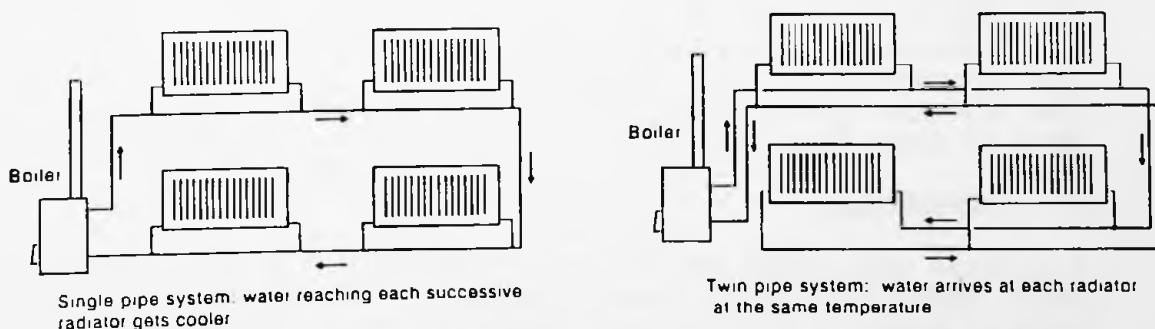

Fig 3.5 One and two pipe central heating systems
6. Decide whether to have a one pipe or two pipe system. Figure 3.5 shows the difference between these two arrangements. In a one pipe system the hot water enters a radiator, is cooled as it radiates heat to the room and the cooler water then re-enters the pipe to travel on to the next radiator. In a two pipe system the cooler water leaving the radiators is piped back to the boiler in a separate circuit. In a large house a single pipe system is unlikely to be satisfactory. Generally most modern pumped systems use the twin pipe arrangement as it allows more even heat distribution and control, and single pipe systems are generally only used for the simplest, direct heated, gravity types of system and are not to be recommended for general use.